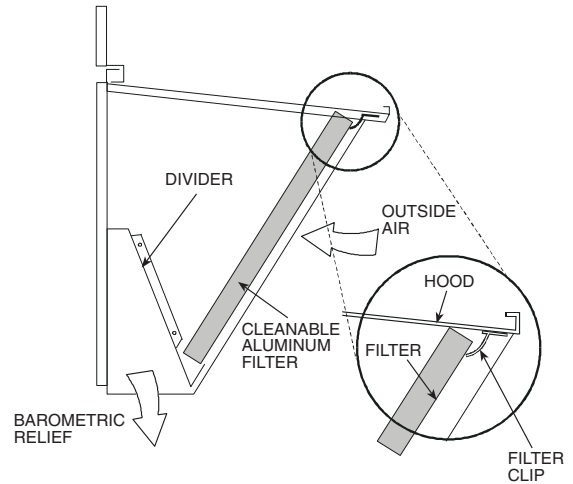

Fig. 17 — Economizer Filter Installation
5. Open the filter clips which are located underneath the hood top. Insert the aluminum filter into the bottom filter rack (hood divider). Push the filter into position past the open filter clips. Close the filter clips to lock the filter into place. See Fig. 17.